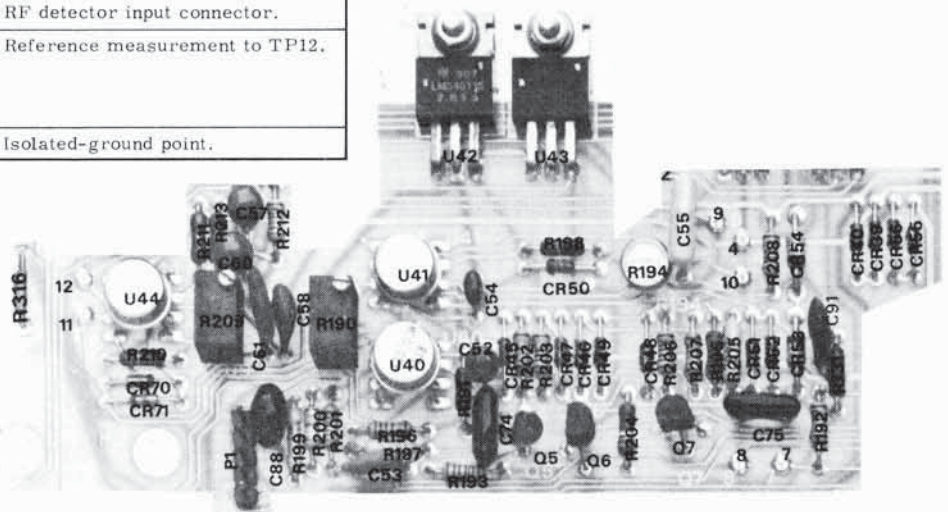
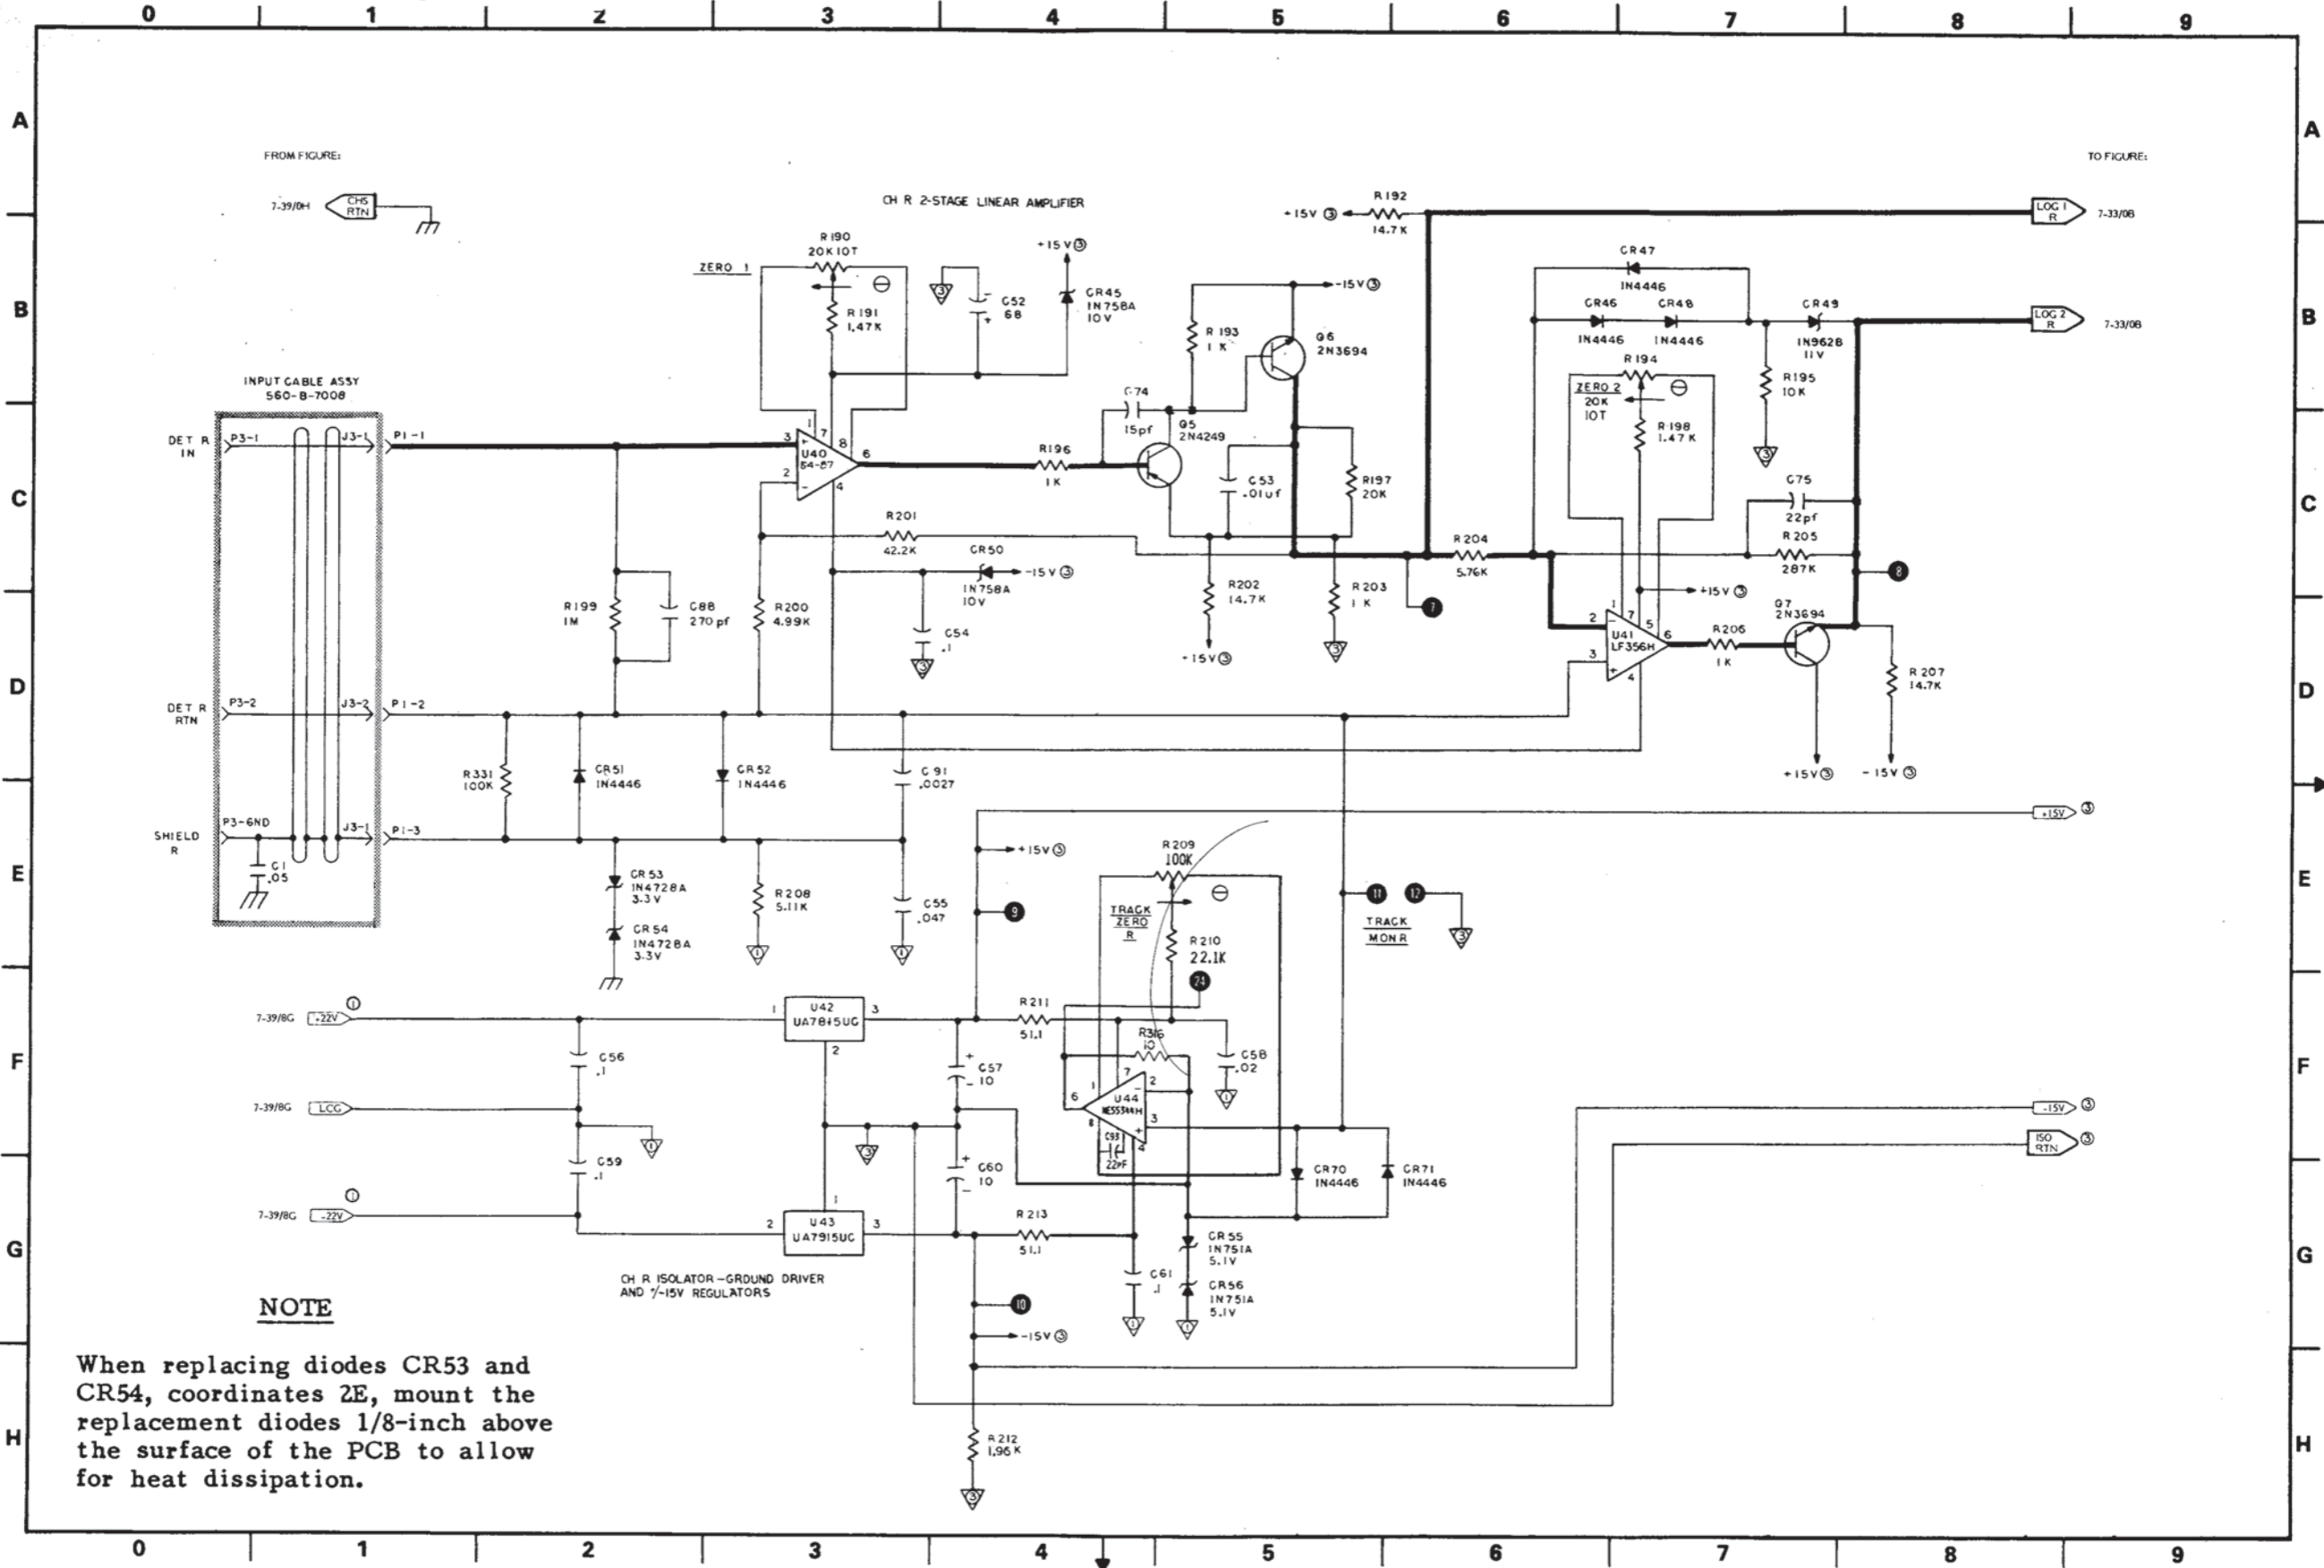

Figure 7-32, Log Amplifier (A3) PCB Channel R 2-Stage Linear Amplifier, Isolated-Ground Driver, and  $\pm 15\text{V}$  Regulator Circuits Parts Locator Diagram
Figure 7-33, Log Amplifier (A3) PCB Channel R 2-Stage Linear Amplifier, Isolated-Ground Driver, and ±15V Regulator Circuits Schematic Diagram
This circuit amplifies and logarithmically shapes the sensitivity-input power response curve of the detected input reference (R) signal. The R signal's response curve is shaped to compensate for the difference in detector response at different input power levels (detector response law). The amplifier consists of the following circuits: two-stage linear amplifier, isolated-ground driver,  $\pm 15$  V regulator, 8-section log shaper, log-shaper bias generator, dBm normalizer, common-mode-signal subtractor, offset bridge, temperature bridge, and separator. A block diagram of the R channel log amplifier is shown in Figure 7-31. A parts locator diagram for the two-stage linear amplifier, the isolated-ground driver, and the  $\pm 15$  V regulator circuits is shown in Figure 7-32, Sheet 1; their schematic is shown in Figure 7-33, Sheet 1. A parts locator diagram for the 8-section log shaper, the log shaper bias generator, the dBm normalizer, the common-mode-signal subtractor, the offset bridge, and the temperature bridge and separator circuits is shown in Figure 7-32, Sheet 2; their schematic is shown in Figure 7-33, Sheet 2. The R Channel log amplifier circuits are described below.
a. Two-Stage Linear Amplifier Circuit (Figure 7-33, Sh. 1). This circuit provides two stages of linear amplification for the input R signal. The first amplifier stage consists of operational amplifier U40, transistors Q5, Q6, and associated components. This stage has a gain of 11;
- b. Isolated-Ground Driver Circuit (Figure 7-33, Sh. 1). This circuit provides the reference input for 15-volt regulators U42 and U43. This U42 and U43 reference input is a voltage from a low-impedance source that is equal to the Channel R RF detector common-mode voltage. The common-mode voltage is the voltage present on the detector case that is common to both the input and the return signals. The isolated-ground driver circuit consists of operational amplifier U44 and associated components.
- c.  $\pm 15$  Volt Regulator Circuit (Figure 7-33, Sh. 1). The two 15-volt regulators U42 and U43 provide the  $V_{CC}$  voltages for all of the Channel R circuits except Common Mode Subtractor. With the R Channel  $V_{CC}$  supply referenced as described in subparagraph b above; interference normally attributed to common-mode signals is cancelled.
Figure 7-33, Log Amplifier (A3) PCB Channel R 8-Section Log Shaper, Log Shaper Bias Generator, dBm Normalizer, Common-Mode Signal Subtractor, Offset Bridge, and Temperature Bridge and Separator Circuits Schematic Diagram
Figure 7-32, Log Amplifier (A3) PCB Channel R 8-Section Log Shaper, Log Shaper Bias Generator, dBm Normalizer, Common-Mode Signal Subtractor, Offset Bridge, and Temperature Bridge and Separator Circuits Parts Locator Diagram
← Figure 7-33.
- d. 8-Section Log Shaper Circuit (Figure 7-33, Sh. 2). This circuit shapes the sensitivity-input power response curve of the R channel log amplifier to compensate for variations in RF detector sensitivity with input power. At high input-power levels (+16 to 0 dBm), the RF detector sensitivity response is linear; at low input-power levels (-18 to -50 dBm), the RF detector sensitivity response is square-law; and at medium input-power levels (0 to -18 dBm), the RF detector sensitivity response is in transition between linear and square-law.
- e. Log Shaper Bias Generator (Figure 7-33, Sh. 2). This circuit generates a bias voltage that varies with the temperature of the RF detector. This bias voltage controls the conduction of current through the eight log-shaper sections. The bias generator, by controlling log shaper current conduction, controls the shape of the sensitivity-input power response curve of the log shaper circuit. The bias generator circuit consists of operational amplifiers U51A, U51D, and associated components.
- g. Common-Mode-Signal Subtractor Circuit (Figure 7-33, Sh. 2). This circuit subtracts the common-mode signal from the
- h. Offset Bridge Circuit (Figure 7-33, Sh. 2). This circuit converts the resistance of the RF detector offset potentiometer to a voltage. This voltage, in conjunction with the voltage outputs of U51D (bias generator) and U51B/U51C (temperature bridge and separator), controls absolute calibration in dBm.
i. Temperature Bridge and Separator Circuit (Figure 7-33, Sh. 2). This circuit performs two functions: (1) it converts the temperature of the RF detector diode to a voltage, and (2) it separates between hot ( $>25^{\circ}\text{C}$ ) and cold ( $<25^{\circ}\text{C}$ ) temperatures.